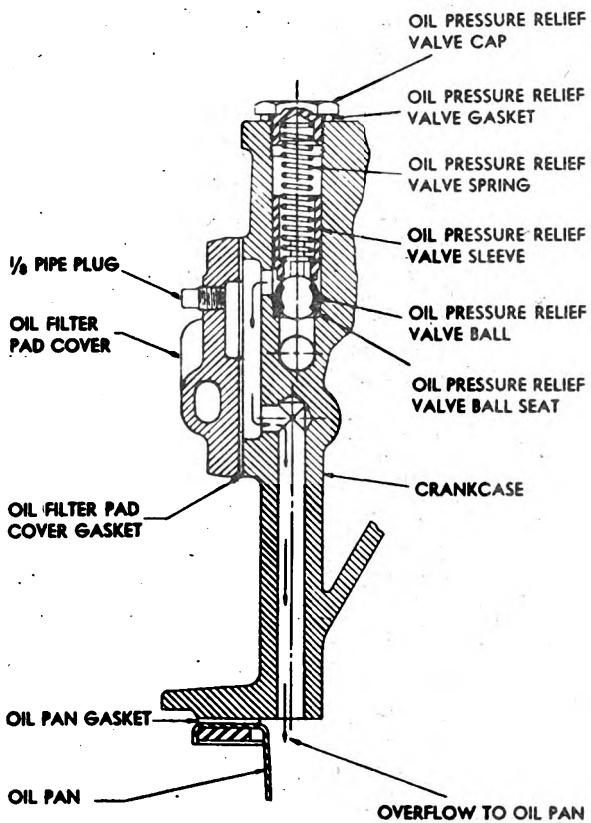

Fig. 295. Oil Pressure Relief Valve
c. *Oil-Pressure Relief Valve.* The oil-pressure relief valve is designed to maintain an operating pressure of approximately 30 pounds at normal speed and temperature. (See Figure 168.) No adjustment is provided. The free length of the spring is  $2\frac{3}{4}$  inches; under  $5\frac{1}{4}$  pounds pressure the length is  $2\frac{13}{32}$  inches. Total number of coils is  $16\frac{1}{2}$ . (See Figure 295.)